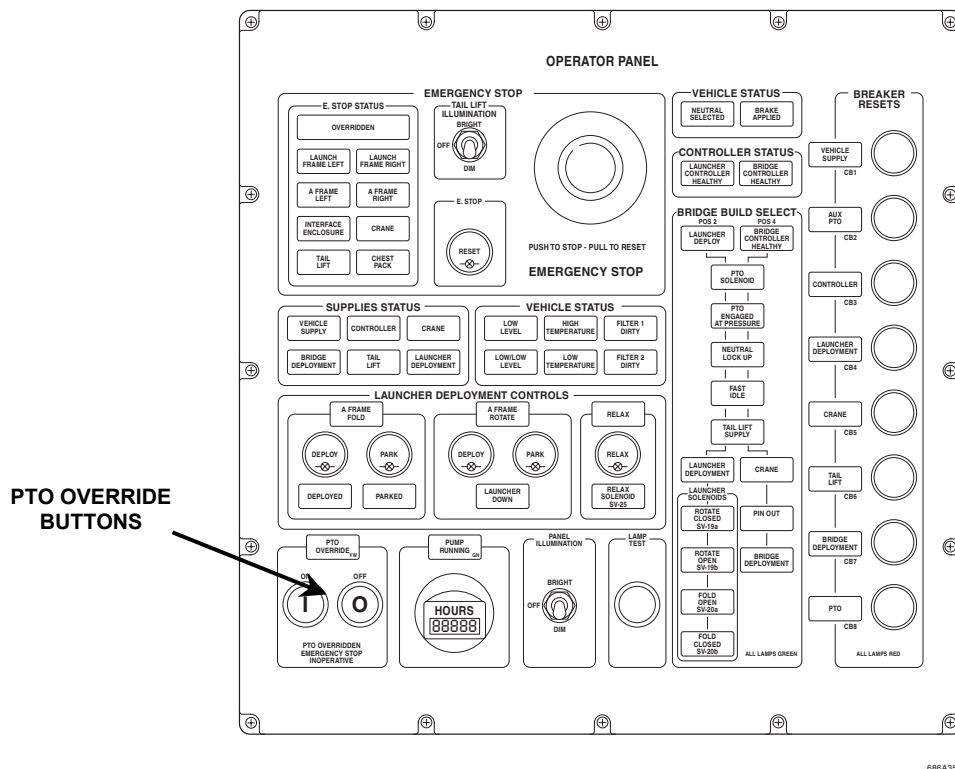

Figure 7. 3 Location of PTO Override Buttons
- (1) With the launch vehicle's engine running, select position 2 on the four position rotary switch in the cab and press reset on the Interface Panel, ensuring that the PTO engages by observing whether the **PTO ENGAGED AT PRESSURE** caption is illuminated.
- (2) With the launch vehicle's engine running, on the Interface Panel, depress the **PTO OVERRIDE "ON"** switch (Figure 7. 3) and ensure that the PTO engages. If no electrical circuits are live, the PTO pressure switch will not indicate **PTO ENGAGED AT PRESSURE**.
- (3) Cross connect the launch vehicle to a slave vehicle. (See paragraph 7.22).